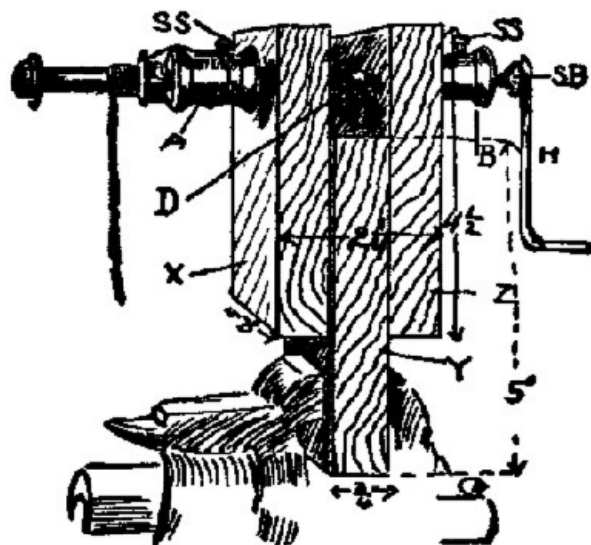

Fig. 71.
**132. Winder.** Fig. 71. This shows a winder that can be used for several purposes by arranging different attachments. It will be first described as shown in Fig. 71, where it is being used to wind a bolt magnet. The principal dimensions are shown in the figure. It is made of  $\frac{3}{4}$  in. wood
about 3 in. wide, the two outer parts *X* and *Z* being nailed to the center one, *Y*, which is to be held in a vise, or fastened to the edge of a table. A  $\frac{5}{16}$  in. hole should be made through the upper part *X* and *Z* at one side of the center, so that a long  $\frac{5}{16}$  bolt can be put through and used as described in App. 93, if desired. A smaller hole,  $\frac{1}{4}$  in., should be made on the other side of the center for a  $\frac{1}{4}$  in. dowel. The dowel, *D*, is shown, and this size is a little smaller than the hole in ordinary spools, shown at *A* and *B*. One-quarter in. dowels can be made to fit fairly tight into the holes by wrapping paper around them. Five-sixteenth bolts can be screwed into the spool holes, shown by the bolt magnet in Fig. 71. To firmly hold a spool from twisting around upon the dowel-axle, a set-screw, *S S*, is needed. These are small screws, say  $\frac{3}{8}$  in. long, No. 5. A small hole should be made into the spool before forcing in the screw. (App. 25.)